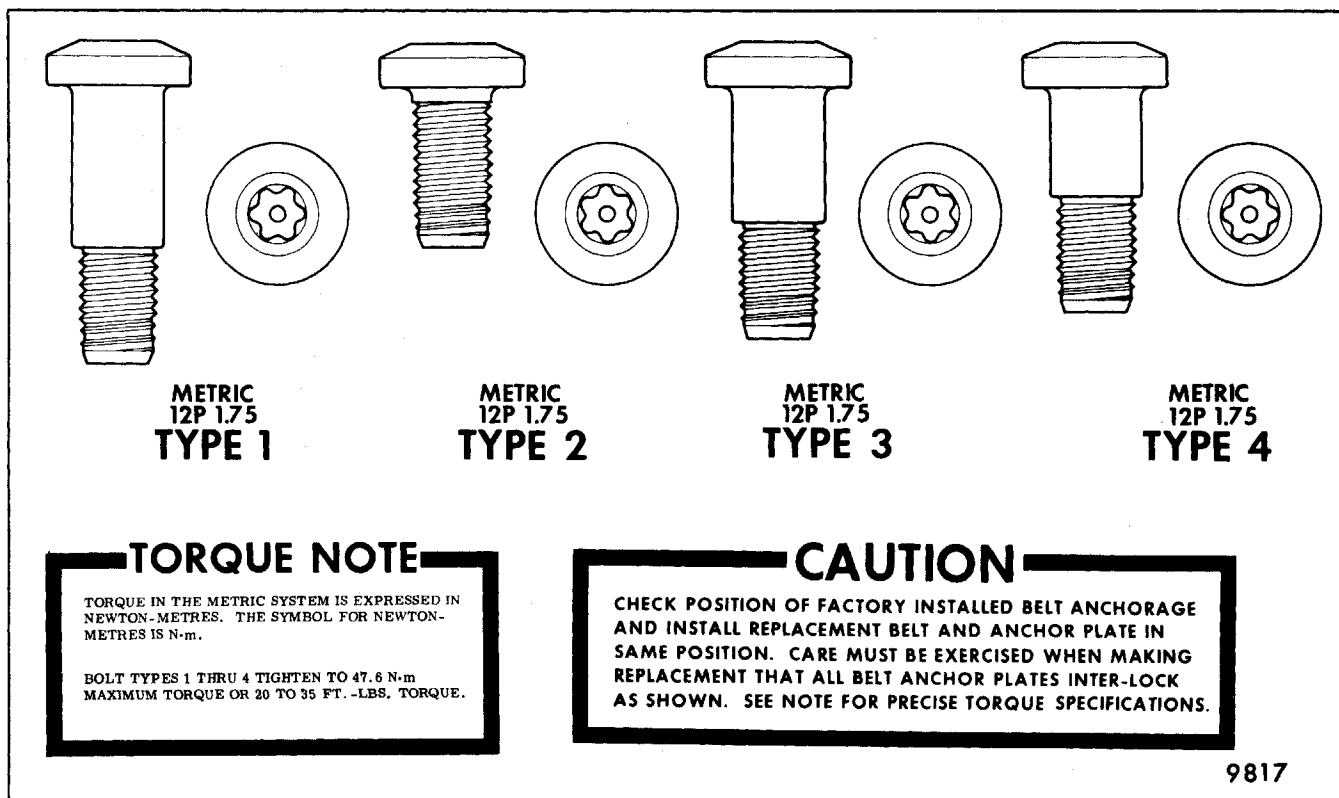

Fig. 9-3-Front Seat Lap and Shoulder Belt Anchor Bolts - A Styles
8. Refer to Figures 9-3, 9-9, 9-12, 9-17, 9-22, 9-28 and 9-32 and tighten ALL seat and shoulder belt anchor bolts as specified.